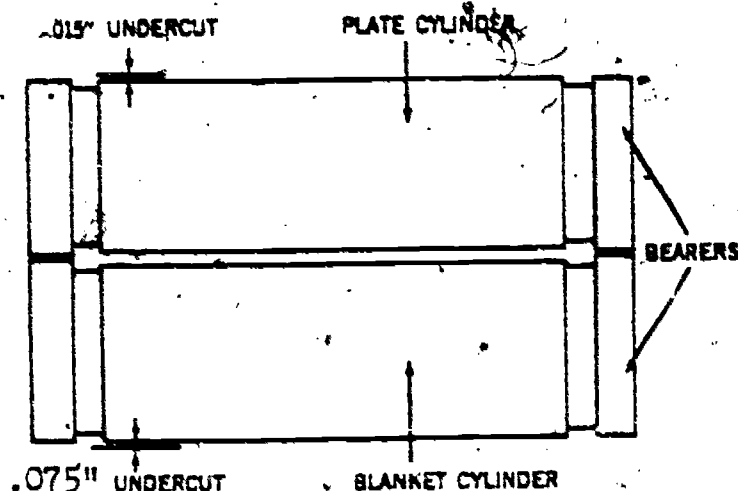

FIGURE 6
a. Cylinder undercuts. The plate and blanket cylinders have steel bands, commonly called bearers, encircling the outside edges of each cylinder, and rising slightly above the cylinder surface. There is a shallow gap, or gutter, between the bearers and the edge of the usable cylinder surface. The blanket cylinder is undercut .075 inch below the surface of its bearers, and the plate cylinder is undercut .015 inch below the surface of its bearers. (See figure 6.)
(1) Pack blanket. The packing of the cylinders will be done only when the press is stopped and the switches are in the "safe" position. The blanket is underlaid with thin sheets of paper (packing to raise it .003" above the cylinder bearers from .075" to .078"). (See figure 6.)